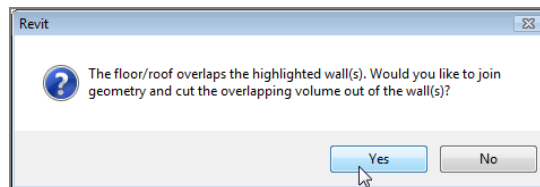

FIGURE 6.29: Click Yes if you want to cut overlapping volumes out of the exterior walls.
7. The next message pertains to the exterior walls. Revit asks whether you would like to cut the section out of the walls where the slab is intersecting. In this case, you do, so click Yes in the message box, as shown in Figure 6.29.